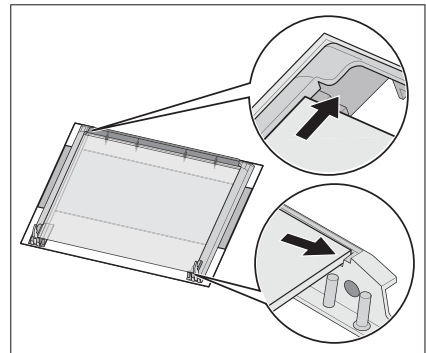

Fig. 10
- b) the uppermost pane must be reassembled as shown in Fig. 10.